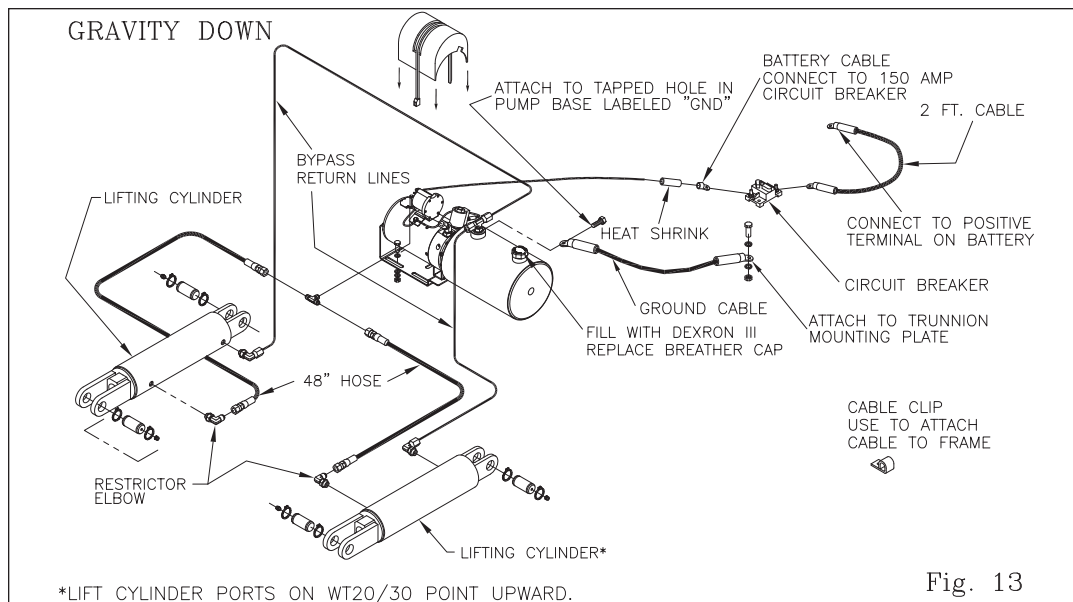

Fig. 13
- Step 23** Install fittings in the pump and cylinders. Install hoses and hose clamps and fill reservoir with Dexron III. See figure 13.
- Step 24** Fasten the 150 Amp breaker provided within 2 ft. of the truck battery. Route the battery cable from the liftgate to the 150 AMP breaker. **AVOID SHARP CORNERS AND HIGH HEAT AREAS.** Use cable clips provided to secure the cable to the truck frame every 2 feet. Cut the cable to the desired length and strip .88" of insulation from the end. Slide the pre-cut heat shrink over the end of the cable. Secure the cable lug in a vise and apply heat to the connector and insert the cable as the solder melts. Allow connector to cool and install the heat shrink. Attach this end to one terminal on the 150 amp circuit breaker. Install the ground cable from the negative battery terminal to the frame. Attach one end of the 2 ft. cable provided to the positive terminal of the battery and the other end to the vacant terminal of the breaker. See figure 13. Attach the ground cable to the tapped hole on the pump base labeled "GND", the other end to the trunnion mounting bracket using the .38" hardware and internal tooth lockwashers provided.